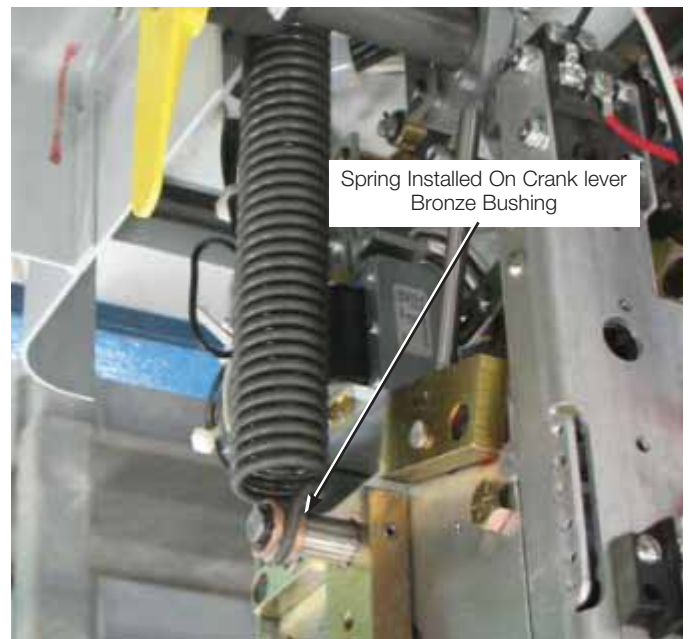

Figure 18.
- k. Lubricate the bronze bushing with general purpose grease. Pull the loose end of the closing spring onto the bronze bushing on the crank lever. Refer to Figure 18.